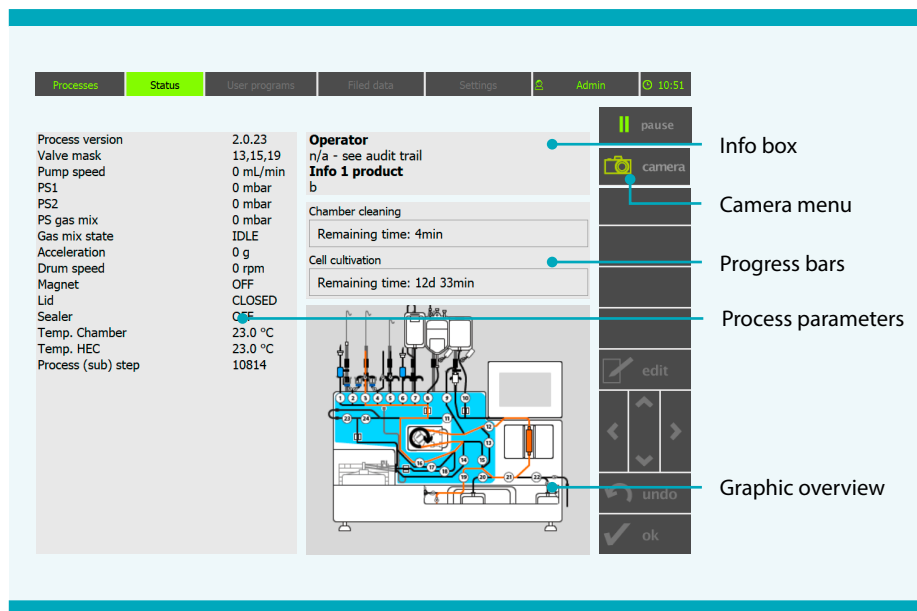

Figure 6.1: Overview of instrument status
<Status>	Instrument status during an application process run (Figure 6.1)
- Process-related parameter: a list of all relevant process parameters (see Figure 6.1, left).
- Info box and progress status: process-related information (see Figure 6.1, top right):
- Graphic overview: provides visual information about the running subprocess status of the instrument (see Figure 6.1, lower right). All activities of the instrument components (e.g., peristaltic pump, pinch valves) are visualized in orange.
Two camera functionalities can be selected with **<camera>** in the toolbar during selected applications (see Figure 6.1).
The image will be automatically captured and saved to the protocol by the application process. To view images, tap **<camera>** in the toolbar when **<Status>** menu is selected (see Figure 6.1). Depending on the step of the application process, the content area will show either a layer detection camera image or microscope image.